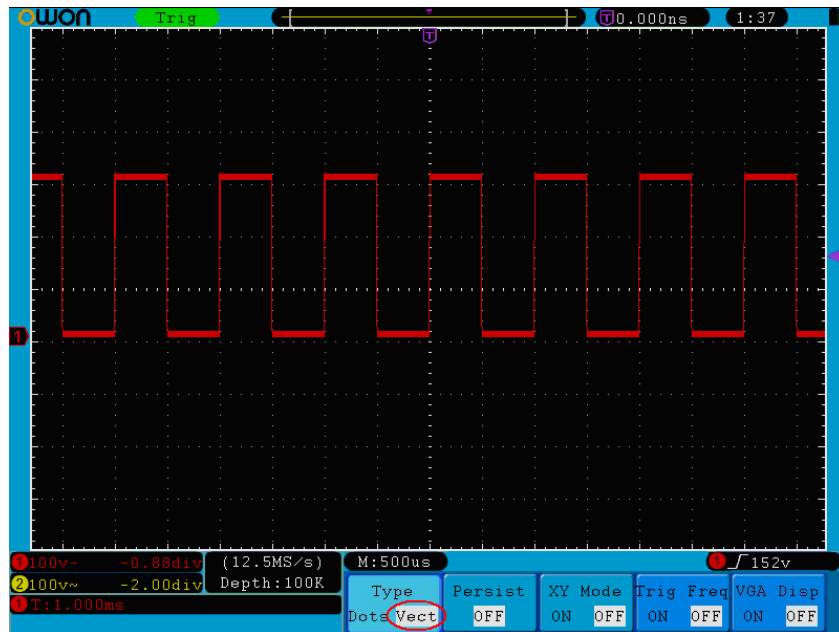
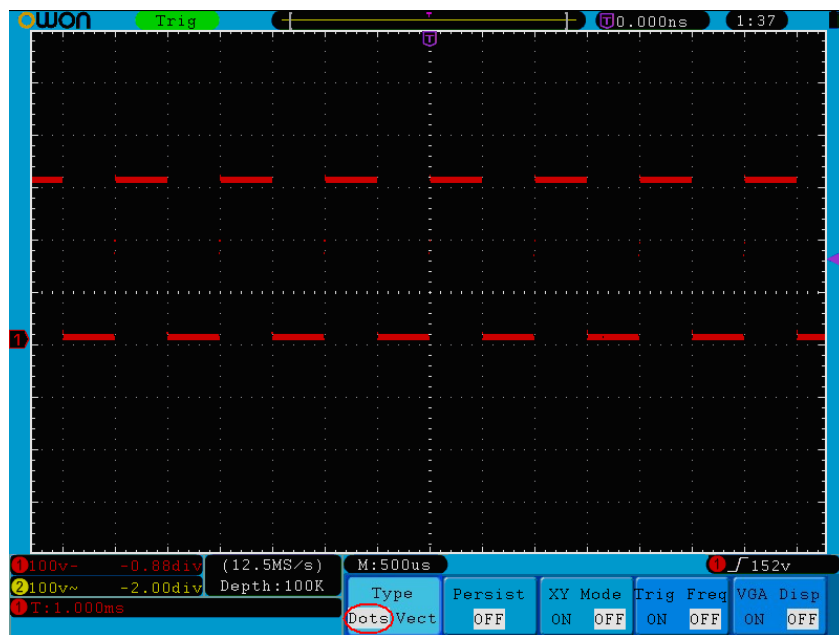

Figure 5-30 Display in the Vector Form
Figure 5-31 Display in Dots form
**Vect** and **Dots** types. The differences between the two display types can be observed through the comparison between *Figure 5-30* and *Figure 5-31*.